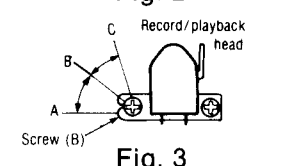

Fig. 3
Adjust screw (B) in fig. 3 for maximum output L-CH and R-CH levels.
- Turn screw (B) shown in fig. 3 to find angles A and C (points where peak output levels for left and right channels are obtained). Then, locate angle B between angles A and C, i.e., and point where L-CH and R-CH outputs are balanced. (Refer to figs. 3 and 4.)
Adjust screw (B) shown in fig. 3 so that pointers of the two VTVMs swing to maximum and a lissajous waveform as illustrated in fig. 6 is obtained on the oscilloscope.